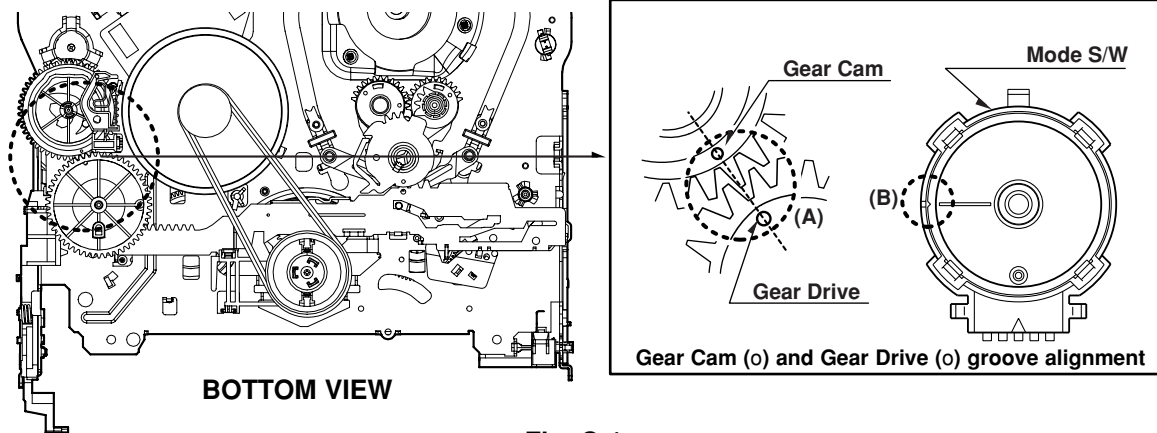

Fig. C-1
- 4) Remove the Screw which fixes the Deck Mechanism and Main Frame and confirm if the Gear Cam is aligned with the Gear Drive as below Fig. C-1(A).
- 5) Confirm if the Mode S/W on the Main P.C.Board is aligned as below Fig. C-1(B).